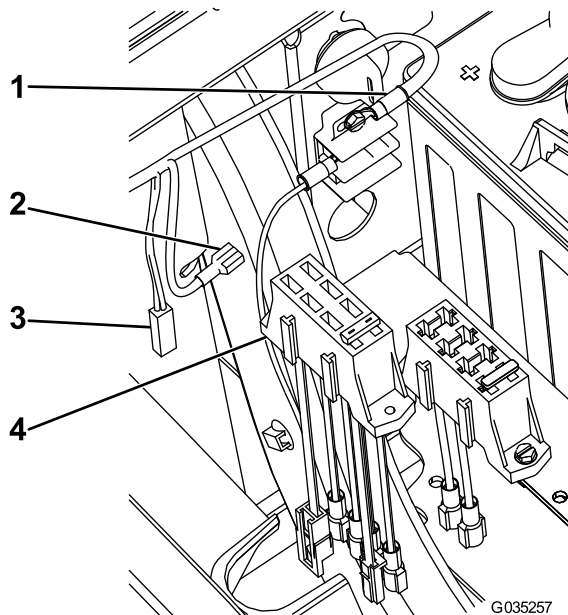

Figure 17
- For 2018 and before machines, snap the new fuse block onto the existing fuse block on the machine (Figure 17).
- Connect the large connector on the new fuse block to the optional power cable on the existing fuse block (Figure 17).
- Connect the remaining wire to the fused wire on the new fuse block (Figure 17).
2. Connect the large connector on the new fuse block to the optional power cable on the existing fuse block (Figure 17).
6. Connect the remaining wire to the fused wire on the new fuse block (Figure 17).